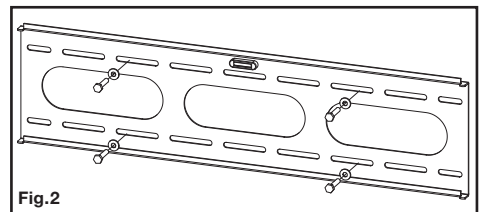

Fig.2
5. Place the wall plate back against the wall and attach it using the lag bolts (A) and lag bolt washers (B) (see Fig. 2). **Do not over-tighten these bolts and do not release the wall plate until all bolts are in place.** Ensure that the wall plate remains level after all bolts are secured.
5. Place the wall plate back against the wall and attach it using the lag bolts (A) and lag bolt washers (B) (see Fig. 2). Do not over-tighten these bolts and do not release the wall plate until all bolts are in place. Ensure that the wall plate remains level after all bolts are secured.